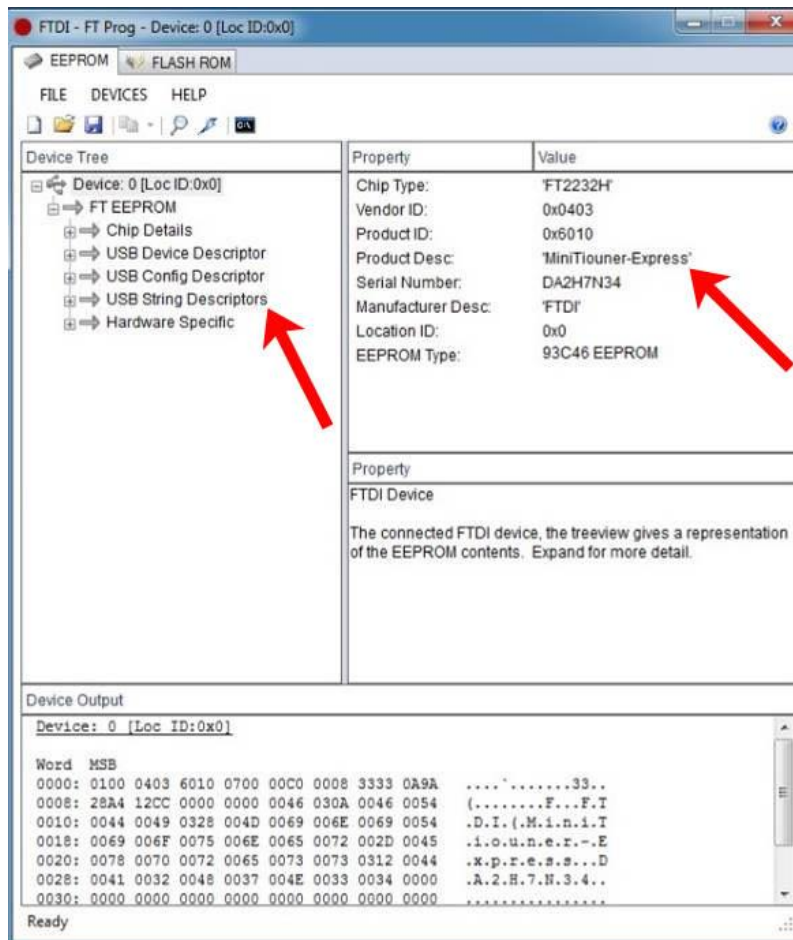

Fig 24 - FT_Prog “USB STRING DESCRIPTORS” showing product correctly as “MiniTiouner-Express” for v0.8s software compatibility.
6. Click on DEVICES then Program. The successful EEPROM Product Description will appear like **Figure 24**.